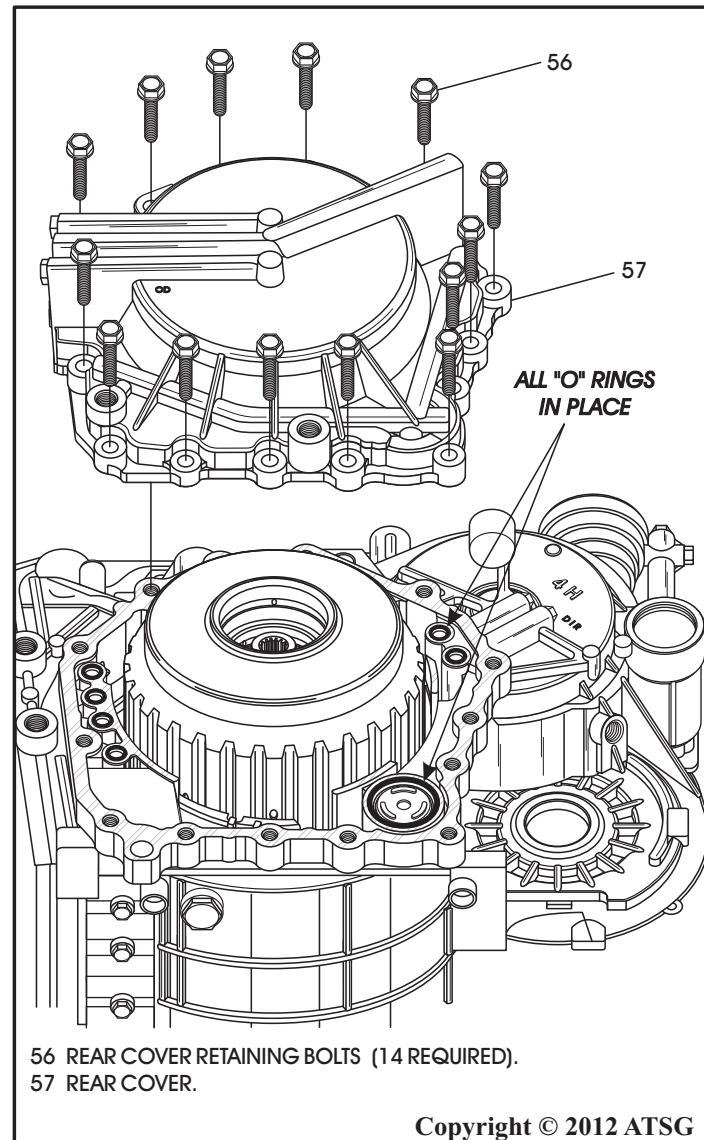

Figure 272
67. Ensure that all 7 "O" ring seals are in place in their pockets in case, as shown in Figure 272, and install the rear cover.
68. Install the 14 rear cover to case retaining bolts, as shown in Figure 272.